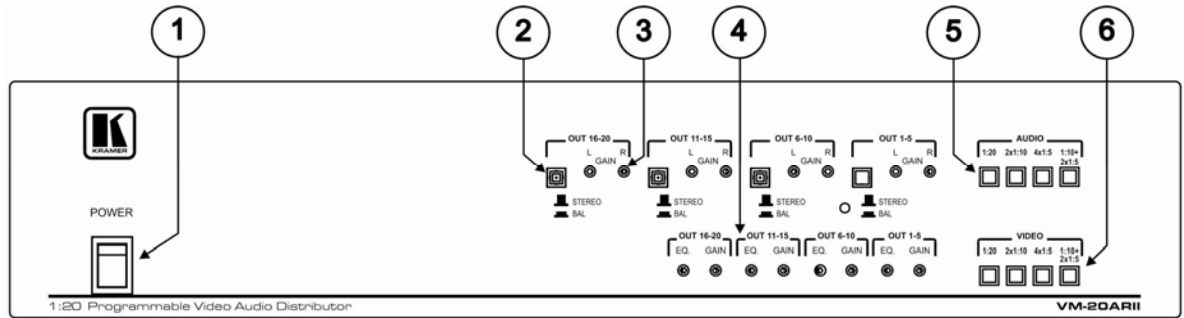
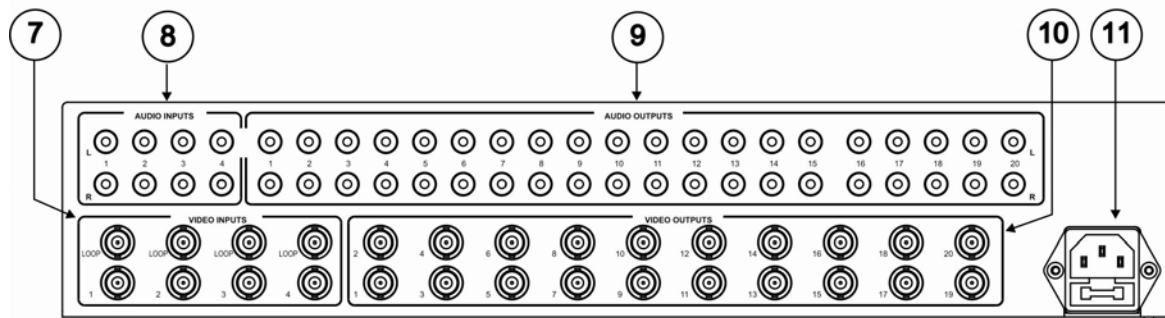
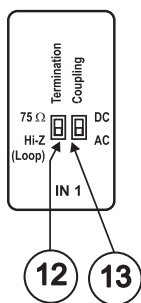

Figure 2: VM-20ARII 1:20 Programmable Video Audio Distributor – Front Panel
Figure 3: VM-20ARII 1:20 Programmable Video Audio Distributor – Rear Panel
Figure 4: VM-20ARII Underside Switches
- **VM-20ARII** *1:20 Programmable Video Audio Distributor*, see Figure 2, Figure 3 and Figure 4